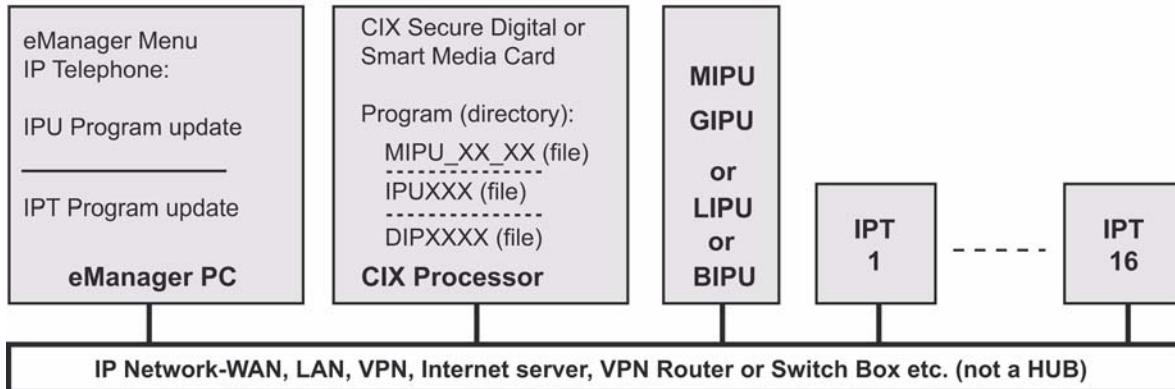

Figure B-1 FTP Server (SM/SD card) Network Connection
2. Do not connect the Network eManager PC directly to the Strata CIX processor network jack (see Figure B-1). All connections must be through the network.